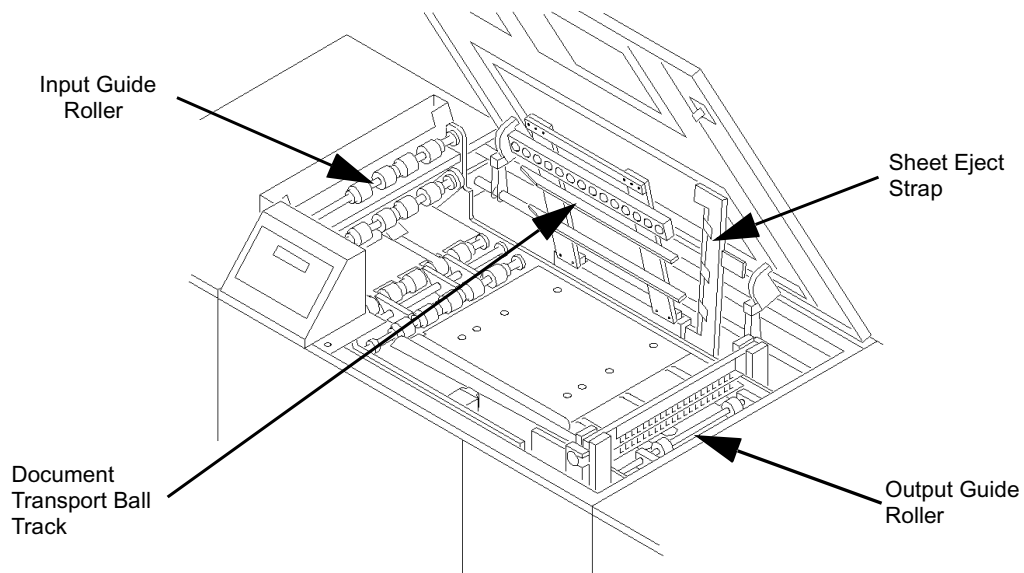

Figure 3-2: The Internal Paper Path Components
- 4 Open (lift) the Input Guide Roller assembly, the Document Transport Ball Track assembly and the Sheet Eject Strap assembly, as shown in Figure 3-2 and clear any paper that may be jammed in that area.
- 5 Remove the Output Guide Roller assembly, as shown in Figure 3-2 and clear any paper that may be jammed in that area.